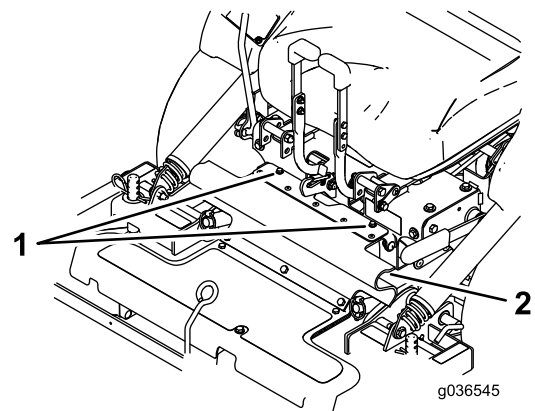

Figure 80
8. Loosen the bolts attached to the rubber guard (Figure 80).
8. Align the upper portion of the rubber guard and secure it with the attached bolts (Figure 80).